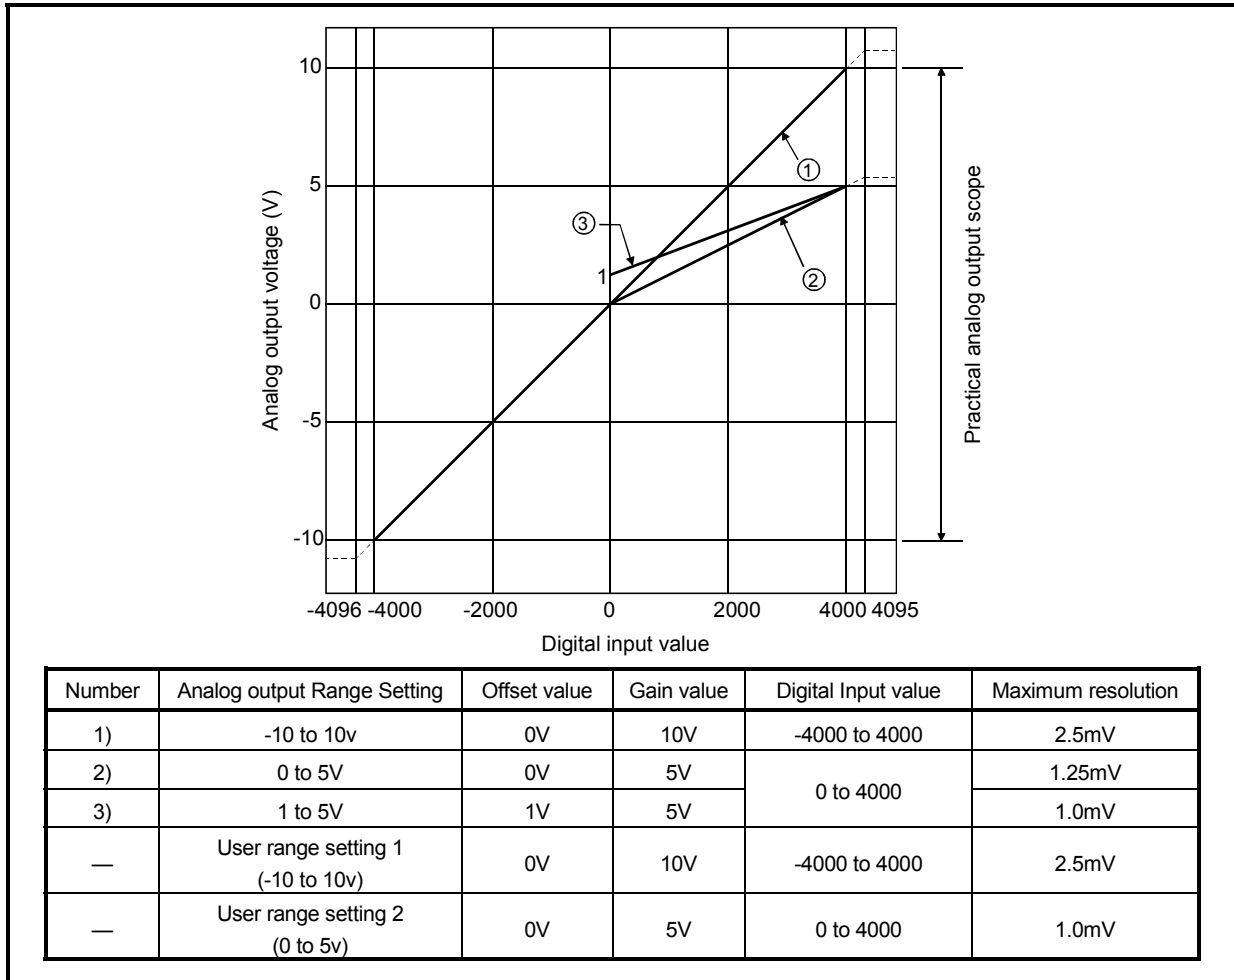

Fig. 3.1 Voltage Output Characteristic
| <p>(1) Within the digital input and analog output scopes of each output range, the maximum resolution and accuracy are within the performance specification range. Outside those scopes, however, they may not fall within the performance specification range. (Avoid using the dotted line part in Fig. 3.1.)</p> <p>(2) Set the offset and gain values of the user range setting within the range satisfying the following conditions.</p> <p>(a) Setting range when user range setting 1 is selected: -10 to 10V</p> <p>(b) Setting range when user range setting 2 is selected: 0 to 5V</p> <p>(c) (Gain value) > (Offset value)</p> <p>If you attempt to make setting outside the setting range of (a) or (b), the "RUN" LED flickers at 0.5s intervals. Set the values within the setting range.</p> <p>If you attempt to make setting outside the setting range of (c), the "RUN" LED flickers at 0.5s intervals. Make setting again.</p> |